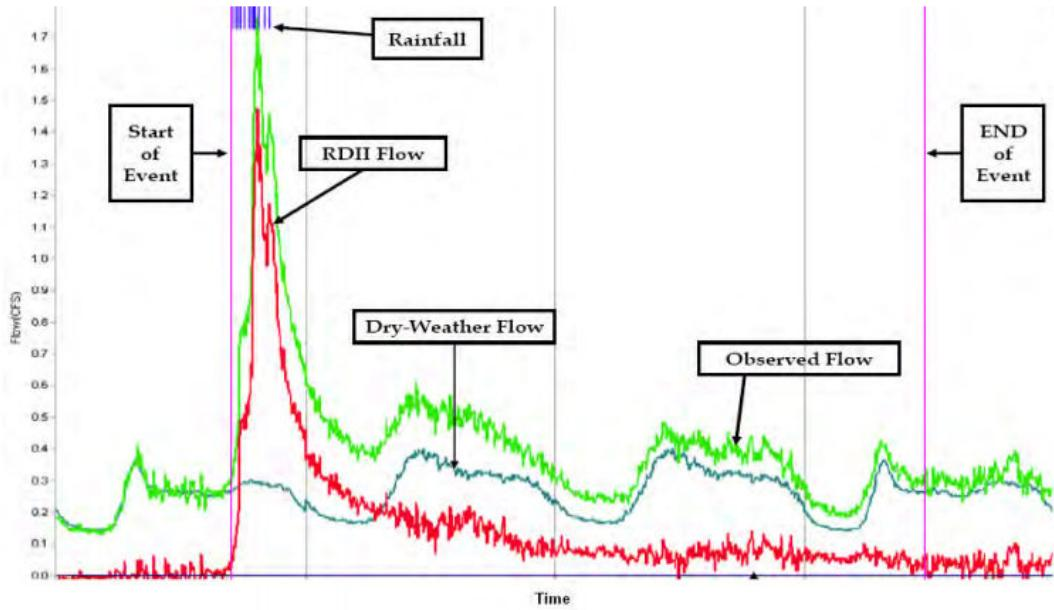

Figure 7-6 Extracting RDII flow from a continuous flow monitor (Vallabhaneni et al., 2007).
2. Extract the RDII portion of the recorded flow at the monitoring station during a wet weather event (see Figure 7-6).